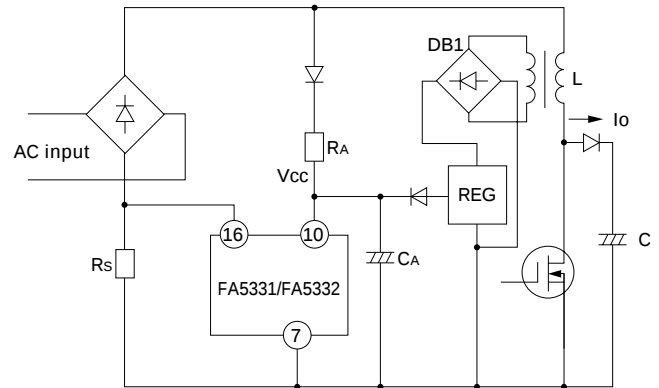

Fig. 9 Start circuit
Figure 9 shows a sample start circuit. Since the IC current while the VCC pin voltage rises from 0V to VTHON is as small as 90μA (typ.), the power loss in resistor RA is small. If an additional winding is prepared in the voltage step-up inductor (L), power to the control circuit can be supplied from this circuit. However, the voltage must be stabilized by a regulator circuit (REG) to prevent an excess rise of the IC supply voltage (VCC). Use fast or ultra-fast rectifier diodes for the rectifier circuit (DB1) of the winding for high-frequency operation.
Figure 9 shows the basic circuit of a voltage step-up type converter which is used as a power factor correction.